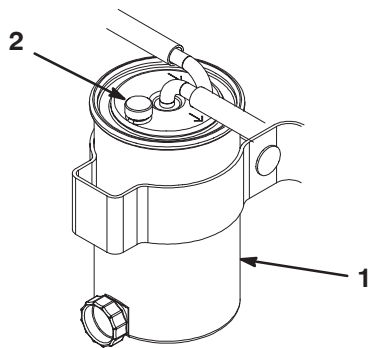

Figure 9
2. Open the breather valve, on top of the canister, until fuel leaks out (Fig. 9).